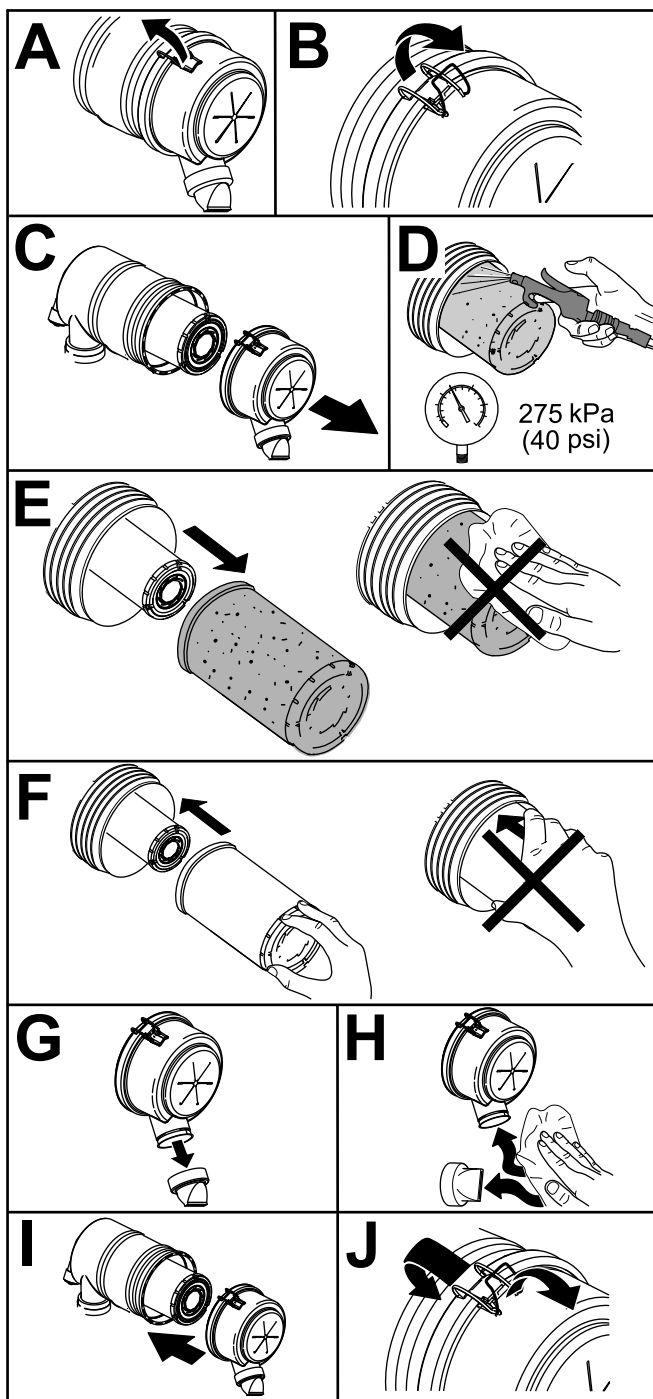

Figure 53
1. Replace the air filter element (Figure 53).